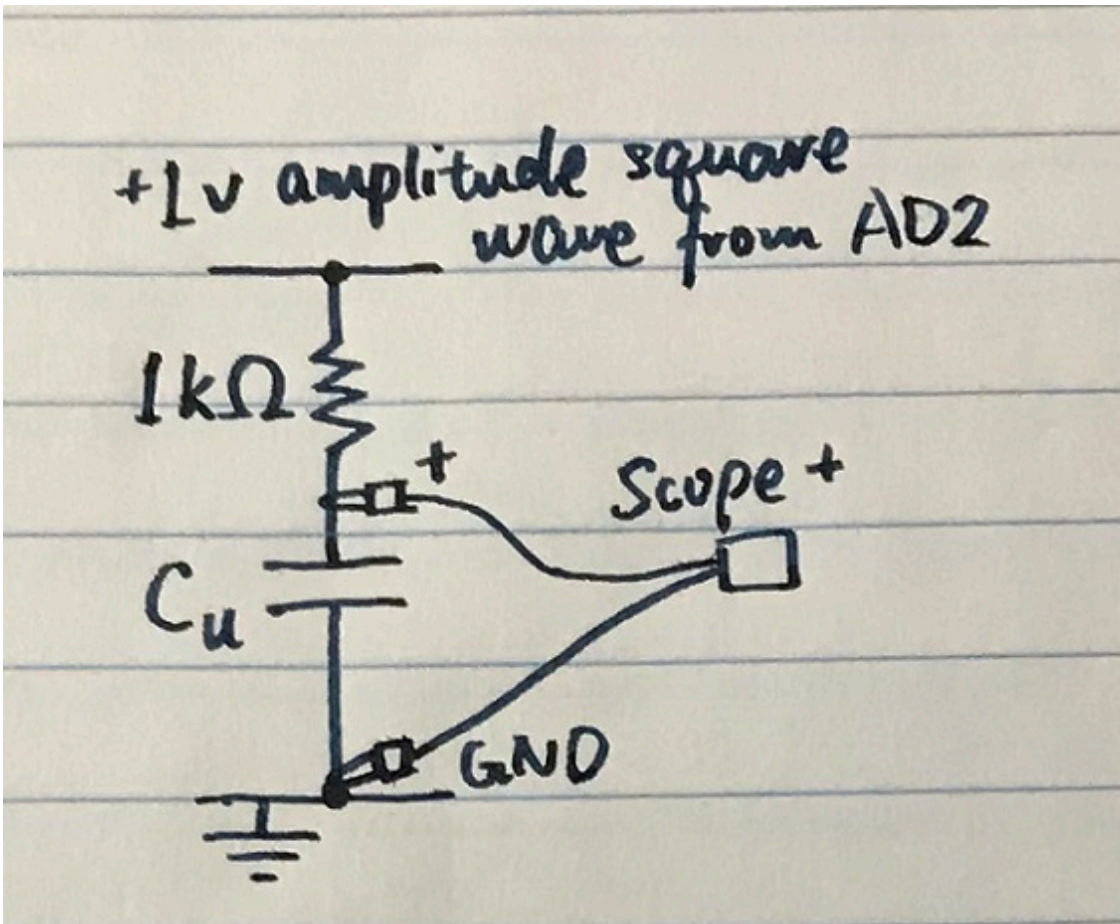
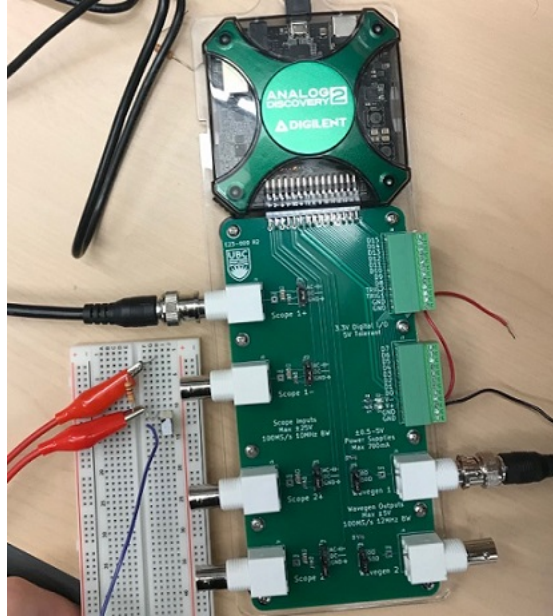

Figure 5: RC circuit schematic for determining C_U
Figure 6: Setup of RC circuit for R_U
- We set up a basic RC circuit like in Figure 5 and with the setup on the breadboard like Figure 6.